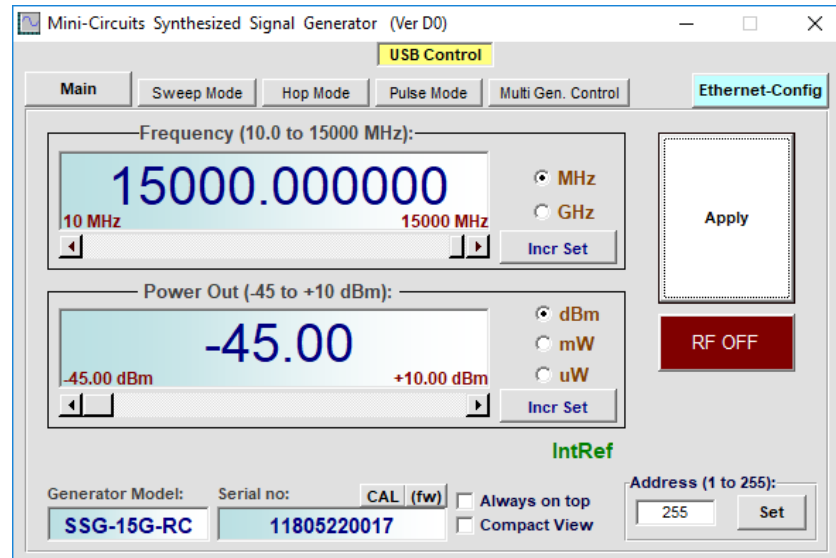

Figure 3.3 Main Screen – initial window
The main screen provides a simple and easy-to-use interface for setting the SSG to produce **CW RF** signals (See **Fig 3.3**).
3.3.1 Top Row (Fig 3.3):
3.3.2 Frequency (Fig 3.3):
3.3.3 Power (Fig 3.3):
3.3.4 Bottom Row (Fig 3.3):